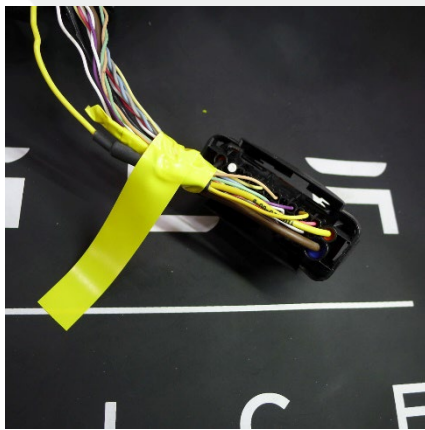
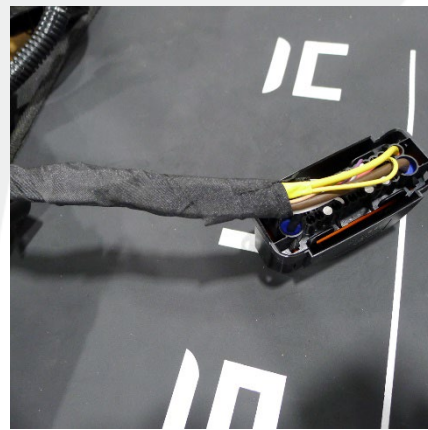

Figure 27
Figure 28
24. Bundle the white wire and excess jumper wire neatly into the electrical harness with yellow tape (Figure 27), and then wrap the harness with anti-abrasion tape (Figure 28).